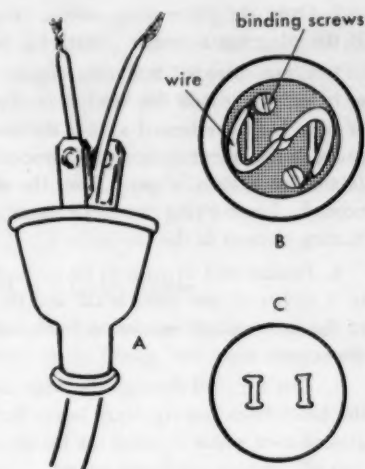

Figure 3. Plug cap
2. Put the cord through the top opening of the attachment plug cap (figure 3 a).
6. Place an insulated wire around each plug prong (figure 3 b) and wrap the exposed ends around the binding screws, making just one complete turn. The insulation should extend up to the screws so that no wires are exposed except under the screw heads.
8. Replace the paper disk insulator (figure 3 c).